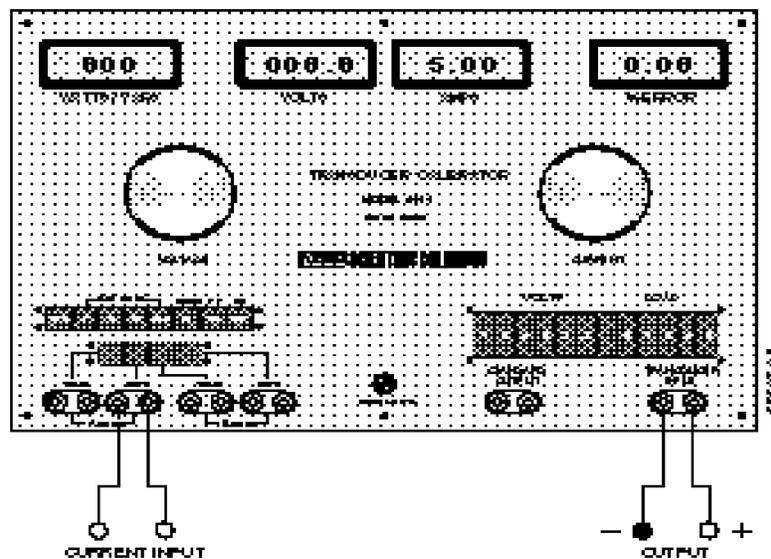

Figure 4-1
1. Connect the current transducer to the transducer calibrator as shown in Figure 4-1. Make certain that the voltage and current knobs are fully counterclockwise, and the "volts" and "amps" push buttons are in the "up" position. Use AWG 14 or larger wire for the input leads to the transducer.